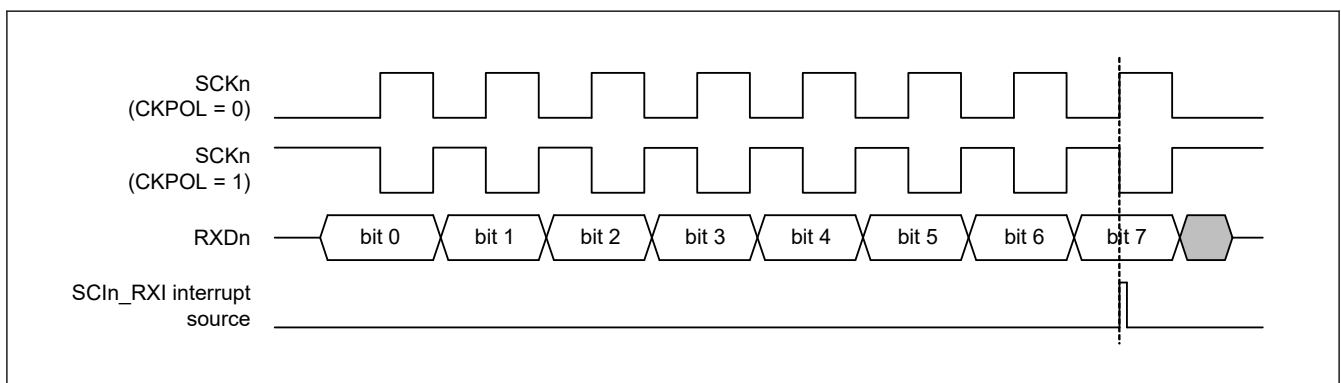

Figure 25.78 Timing of SCIn_RXI interrupt in simple SPI mode with clock delay
- For the clock delay setting (SPMR.CKPH bit is 1), the receive data full interrupt (SCIn_RXI) is generated before the final clock edge on the SCKn pin as indicated in Figure 25.78. If the TE and RE bits in the SCR register become 0 before the final edge of the clock signal on the SCKn pin, the SCKn pin is placed in the high-impedance state, so the width of the last clock pulse of the transfer clock is shortened. Additionally, an SCIn_RXI interrupt might lead to the input signal on the SSn pin of a connected slave going to the high level before the final edge of the clock signal on the SCKn pin, leading to incorrect operation of the slave.